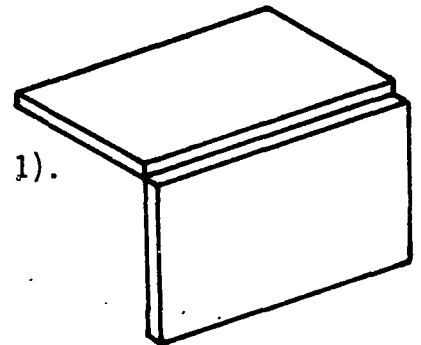

Fig. 1
- c) Position the plates for tacking (fig. 1).